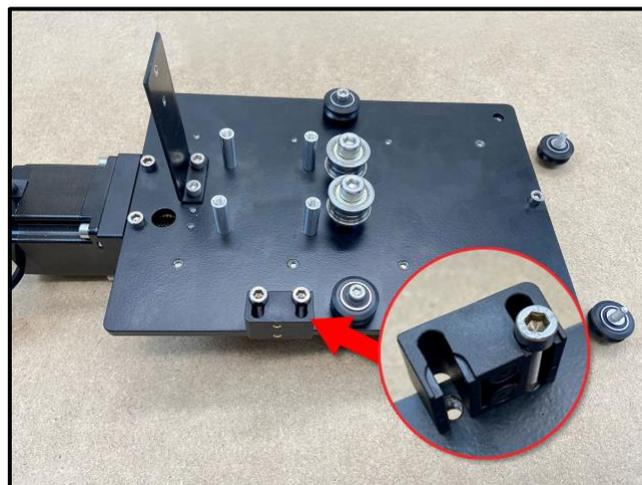

Figure 9
1. Install the X-Axis drag chain head bracket (long, narrow head bracket) on the rear of the Z-Plus. See **Fig. 9**.
- b. Use a 3mm hex key and two (2) M5×8mm SHCS to secure.
2. Install the X-Axis proximity switch mount. See **Fig. 9** and **Fig. 9 inset**.
- b. Use a 4mm hex key and two (2) M5×25mm SHCS to secure. There are outer and inner screw slots in the mount; use the OUTER screw slots.
3. Remove the lower two V-wheels. See **Fig. 9**.